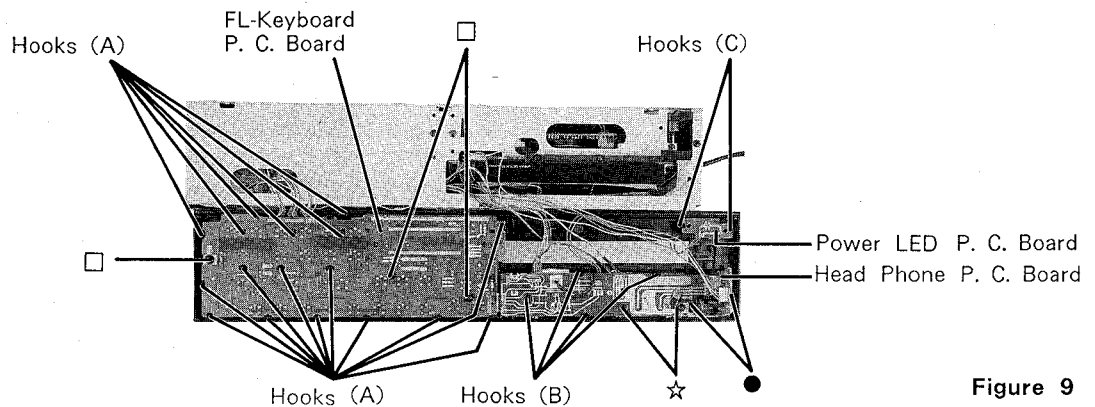

Figure 9
- (1) After removal of the panel front remove three screws marked "□" and hooks (A) as shown in Figure 9.
- (2) Disconnect a connector from Volume/Switch P.C. Board
- (1) Remove two screws marked "●" as shown in Figure 9.
- (2) Disconnect a connector from Volume/Switch P.C. Board.
- (1) After removal of FL-Keyboard P.C. Board and Head Phone P.C. Board remove two screws marked "☆" and hooks (B) as shown in Figure 9.